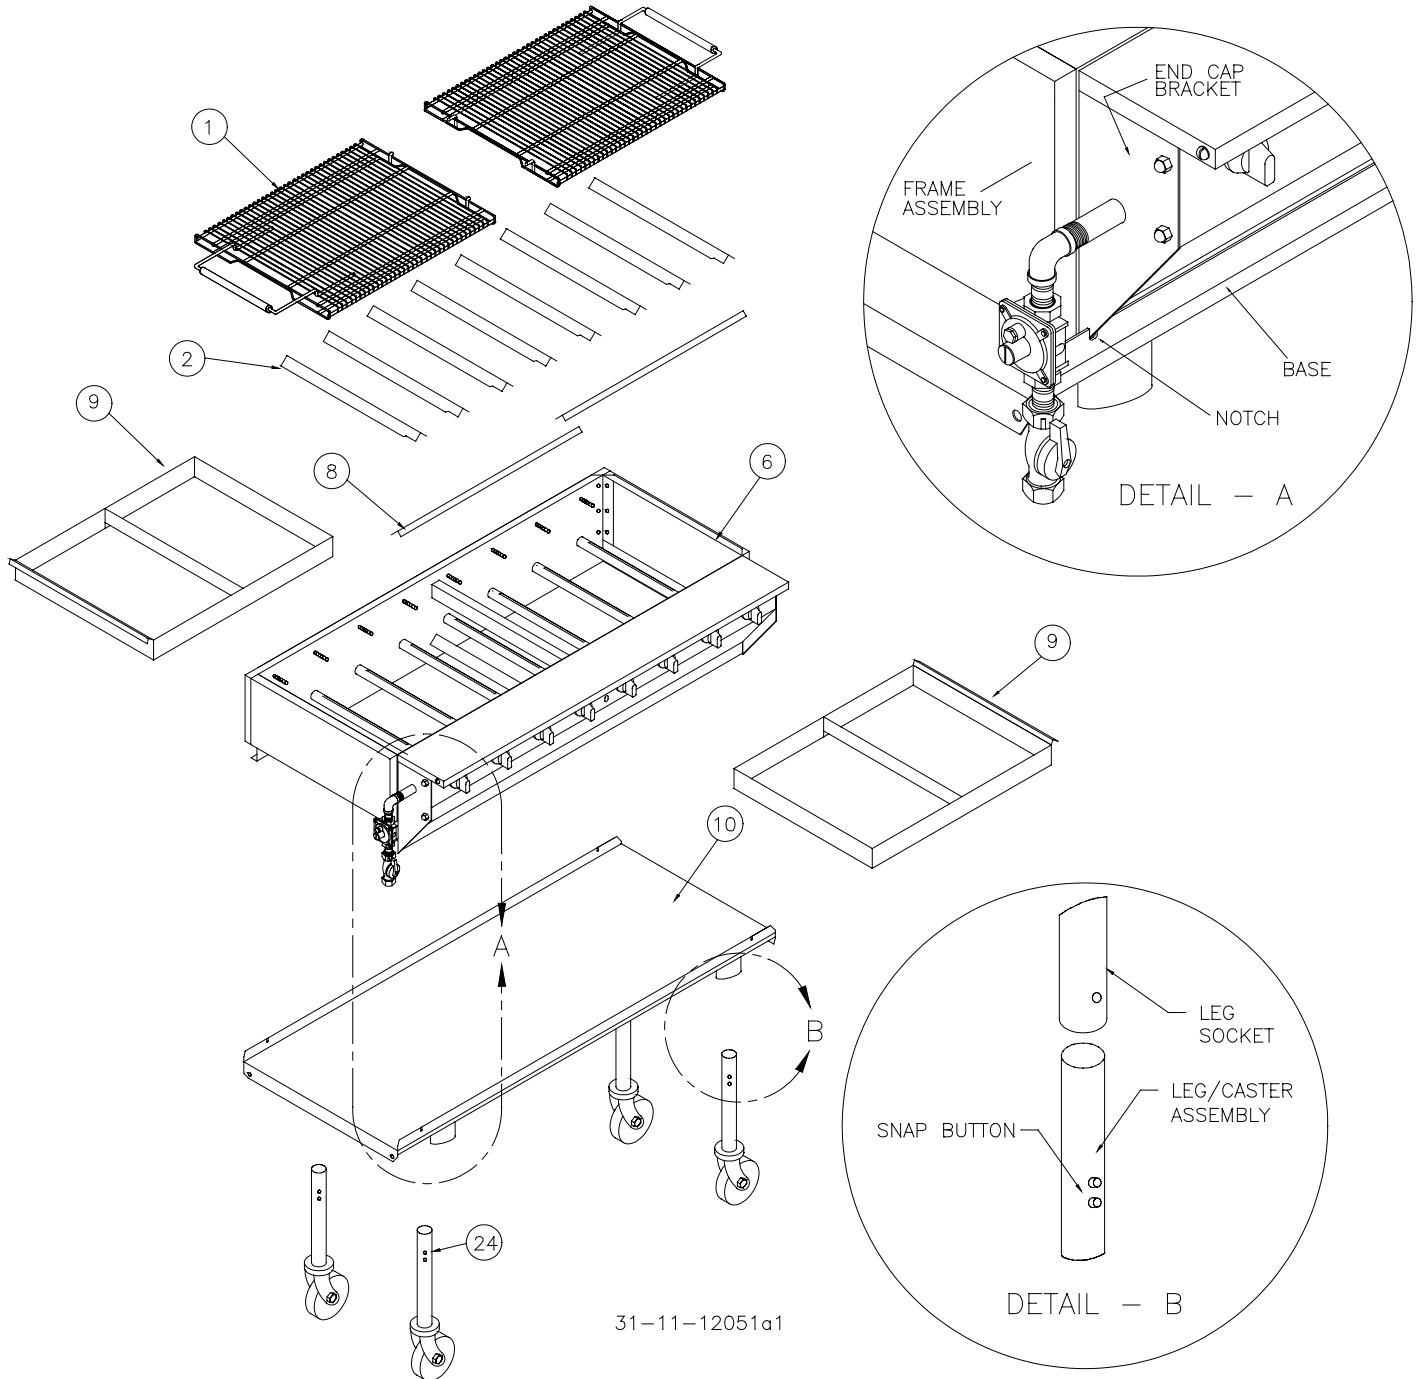

Figure 1
These unassembled parts should be included in your charbroiler package, (Figure 1, Page 5):
- G. Lift base (10) from carton and place upside down on ground.
- H. To install the leg & caster assemblies, insert the assemblies (24) into the leg sockets on the base (10) and depress "snap button" on leg. The leg will slide into the socket and will lock into the correct location.
- I. Flip the base over, with the leg & caster assemblies installed, into the upright position. Place the frame assembly (6) on base (10) with the shelf support brackets located in the notches on the front base assembly.
- K. Place runner tube cover(s) (8) on their brackets to cover the runner tube(s).
- L. Place the radiants (2) on their front and rear support pins over each burner.
- M. Slide water tub(s) (9) into frame assembly (6).
- N. Place cooking grid(s) (1) into frame assembly (6).
- Install the main valve and regulator piping assembly (C in Figure 1).